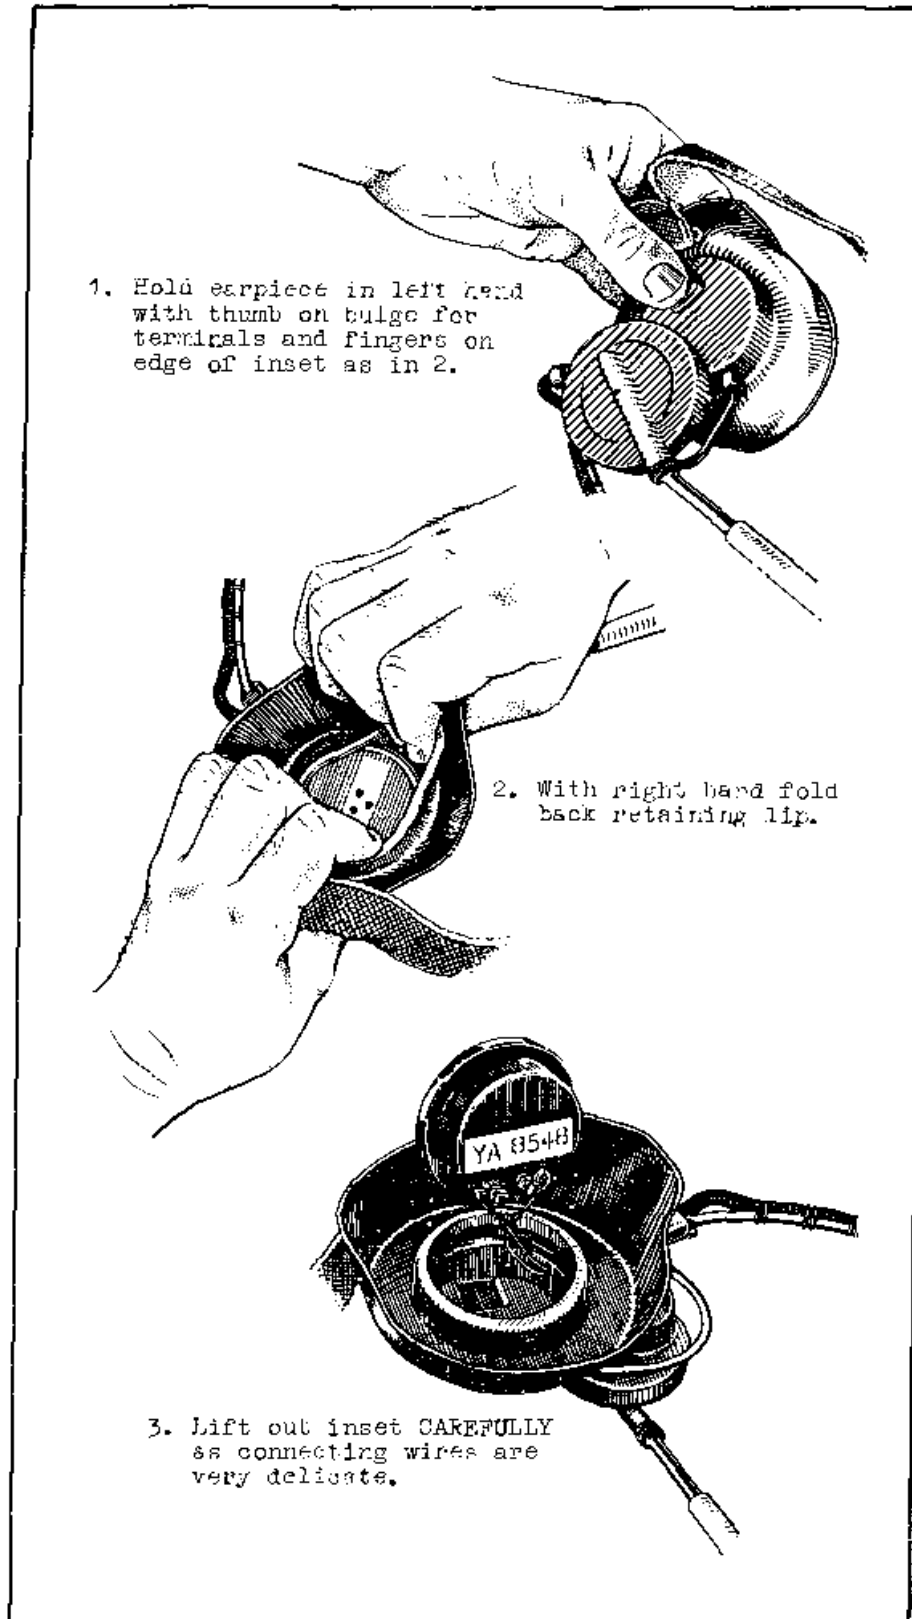

FIG. 34 - REMOVAL OF RECEIVER INSETS
84. To remove the receiver insets from the headset, follow the procedure shown in Fig. 34. Treat the insets very carefully as the connecting wires are very light.